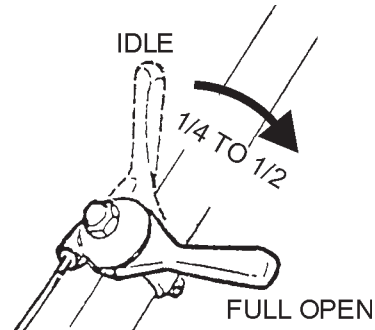

Figure 7. Throttle Lever (1/4 to 1/2)
4. Move the throttle lever (Figure 7) between 1/4 to 1/2 from the idle position.